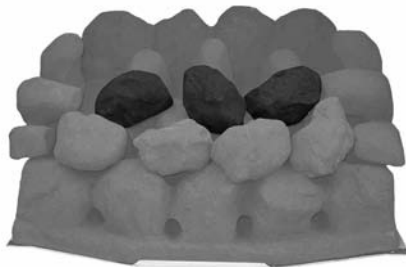

Fig. 18
6. Choose three loose coals and place them in line on the next row up, again making sure all the gaps are even. It is important that the coals 'bridge' the peaks of the fuel bed and are not placed in between. This helps the flow of burnt gases and should give an even glowing fuel bed (Fig. 18).